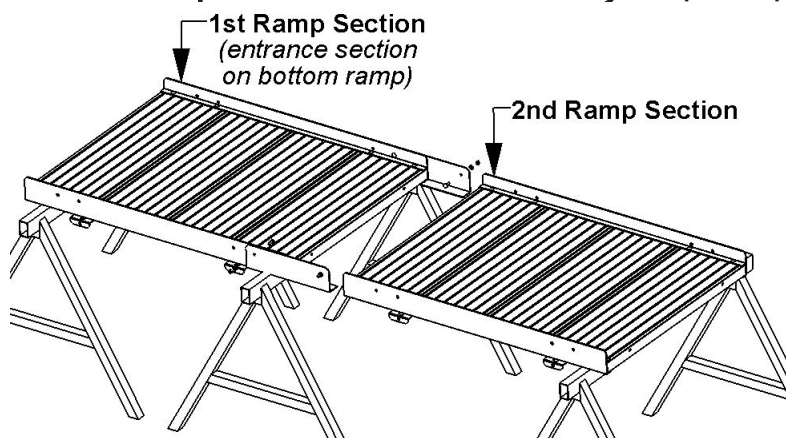
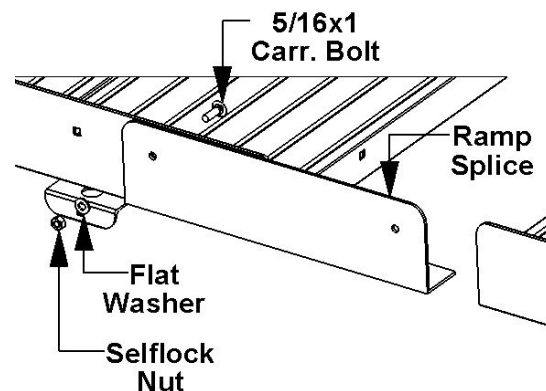

Fig.4.1
Fig.4.2
4.1 Ramp Section Assembly: If system has platforms assemble platforms first and set in place before assembling ramps. Start by setting the first ramp section (**shortest ramp section**) of the ramp run across a set of saw horses. (Fig.4.1) If assembling a bottom ramp run start with the entrance section. Attach a ramp splice to each side of the first section of ramp using the square holes in the ramp frame rail closest to the end of ramp section. Place ramp splice over the ramp frame rail and align the holes of the ramp splice and ramp frame rail (Fig.4.2). Place carriage bolt through the holes making sure to keep the head of the bolt to the inside of ramp section. Place washer over bolt and fasten with self locking nut. Position the next section of ramp and attach using the same method, repeat this process until entire ramp run has been spliced together.